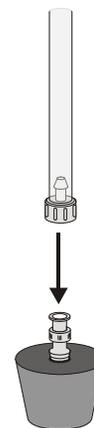

Figure 2
9. Connect the free-end of the plastic tubing to the connector in the rubber stopper as shown in Figure 2. Start data collection (▶).